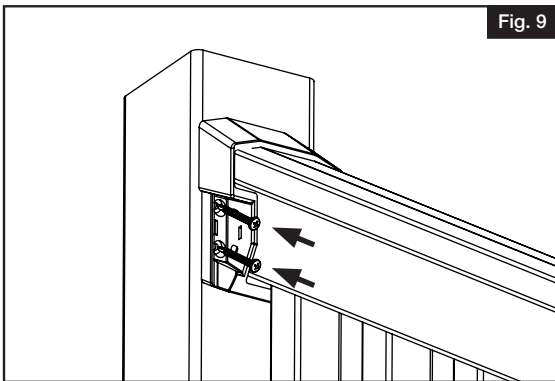

Fig. 9
7 a. Mark all bracket holes. Pre-drill all bracket holes with $\frac{1}{8}$ " drill bit (Fig. 9).
b. Drive screws through brackets into post using #10 x $1\frac{1}{2}$ " self-tapping square drive screws (4 per bracket) (Fig. 9).